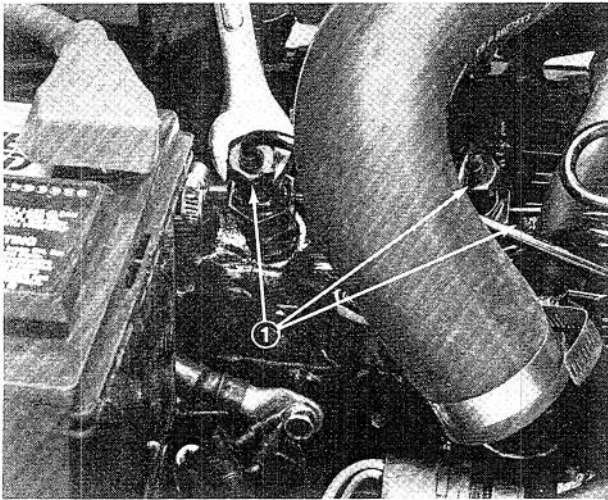

Figure 38
1. Loosen the pipe connection to the No. 1 nozzle and holder assembly (Fig. 38).